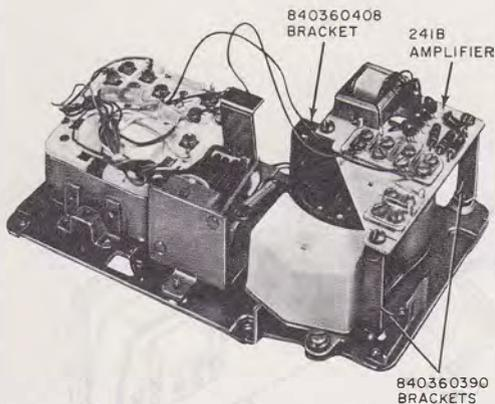

Fig. 7—Installation of D-180409 Kit of Parts
- (1) Install the three 241B amplifier mounting brackets at location shown in Fig. 7, using screws furnished with kit of parts.
- (2) Mount amplifier to brackets with screws furnished in kit of parts.
- (3) Connect amplifier into telephone circuit in accordance with Table D for rotary dial and Table E for TOUCH-TONE dial.